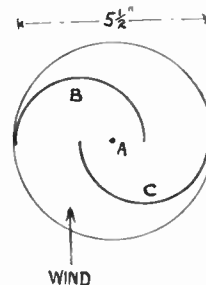

Fig. 2—Principle of rotation
The principal upon which it works can be seen by referring to Fig. 2. The windmill rotates on the axis (A), while (B) and (C) are two half cylinders. When the wind (shown by the arrow) blows into the cylinder (B) it causes the mechanism to rotate on the axis (A).
Two circular pieces of tin are used to keep the half circles in position. Reference to Fig. 2 will show that these plates are 5½ ins. diameter and they can be made from old tins flattened out. By means of the lid template carefully mark out the positions for the half circle vanes.